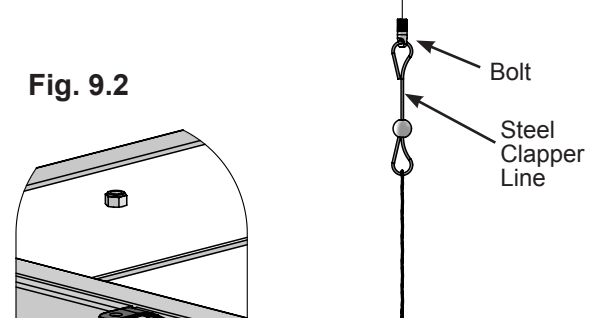

Fig. 9.2
**B:** Thread the Steel Clapper Line through the Bolt. Slide Bell under overhang of Horseshoe Mount then insert Bolt up through Bell and Horseshoe Mount then secure with Nut. Make sure it is tight. (Fig. 9.2 & 9.4)